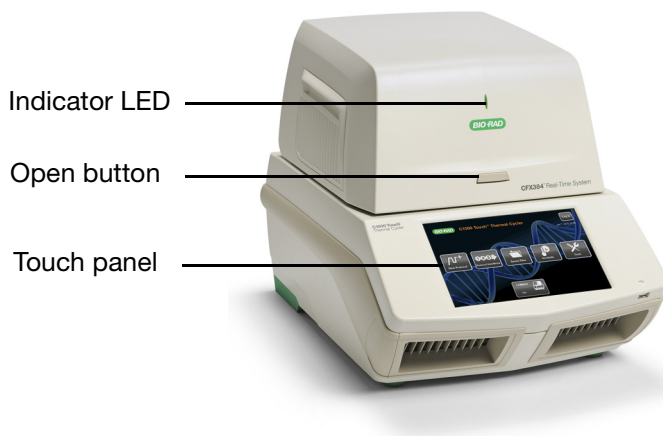

Figure 1. Front view of the CFX96 Touch system.
- Click the **Open Lid** button located on software's Start Run tab (see "Start Run Tab" on page 27), or press the lid button on the front of the system (Figure 1) to start opening the motorized lid.